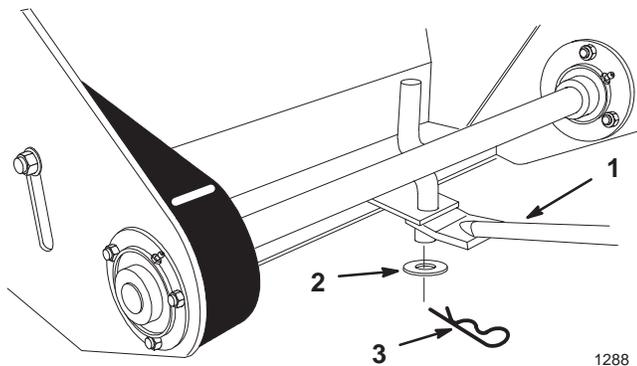

Figure 11
1. Install the lift tube to the housing with a flat washer (5/8 in.) and a hairpin cotter (2-1/2 in.) (Fig. 11).